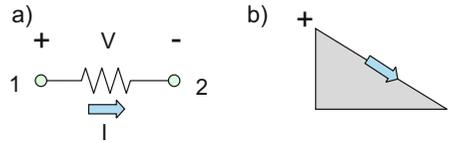

Fig. 2.1. Resistance symbol along with the voltage and current.
Figure 2.1 shows the circuit symbol for *resistance* with current direction and voltage polarity: positive voltage applied to the left terminal and a negative voltage applied to the right terminal cause a current to flow from left to right, as depicted in Fig. 2.1b. As a circuit element, the resistance is fully symmetric: terminals 1 and 2 in Fig. 2.1 may be interchanged without affecting its operation. Thus, the resistance does not have a *polarity*.
The *voltage difference* (or *voltage drop* or simply *voltage*) across the resistance,  $V$ , in Fig. 2.1 is a *signed quantity*. The voltage is measured in volts (V), named in honor of Italian physicist Alessandro Volta (1745–1827), who invented the first battery. Plus and minus signs across the resistance indicate the *voltage polarity*. Specifically, a plus sign denotes a (presumably) higher *absolute voltage level* versus *ground* than the minus sign; see Fig. 2.1b. For example, let us assume that the value  $V$  in Fig. 2.1a is positive and equal to 1 V. This means that the electric field spends positive work equal to
4. The negative part of the  $v$ - $i$  dependence simply means simultaneous switching voltage polarity and current direction, respectively, in Fig. 2.1.